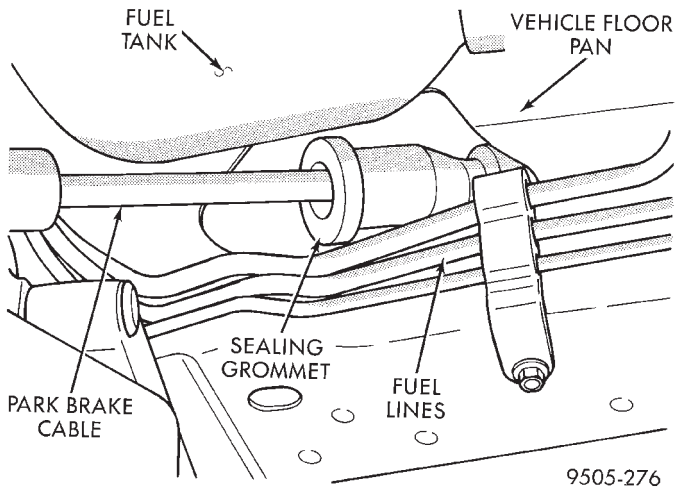

Fig. 153 Park Brake Cable Removal / Installation At Floor Pan
(25) Remove the park brake cable and sealing grommet (Fig. 153) from the floor pan of the vehicle.
(1) Install park brake cable into floor pan of vehicle making sure sealing grommet (Fig. 153) is installed in floor pan as far as possible to insure a proper seal.
(2) Install park brake cable into the rear brake support plate. Be sure locking tabs on cable retainer are expanded to ensure park brake cable is securely held in the support plate.